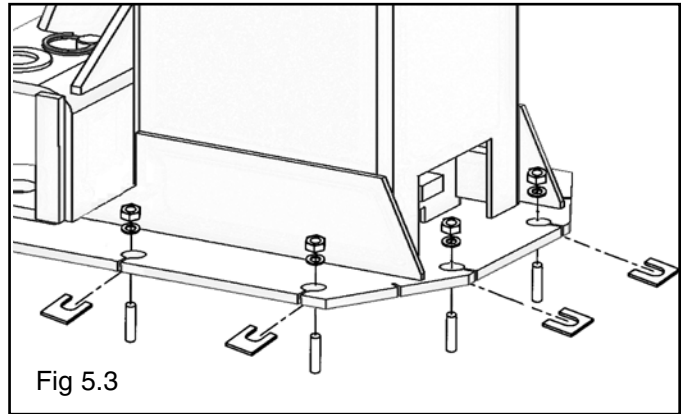

Fig 5.3
5. Insert the shims as necessary under the Base Plate so that when the anchor bolts are tightened, the Columns will be plumb. (See Fig. 5.3)